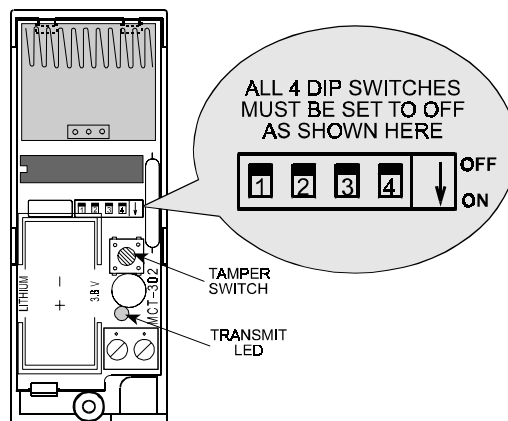

Figure 6. DIP Switches - Correct Position
C. Verify that all 4 DIP switch levers are set to OFF as shown in Figure 6 below. If not - set them all OFF.